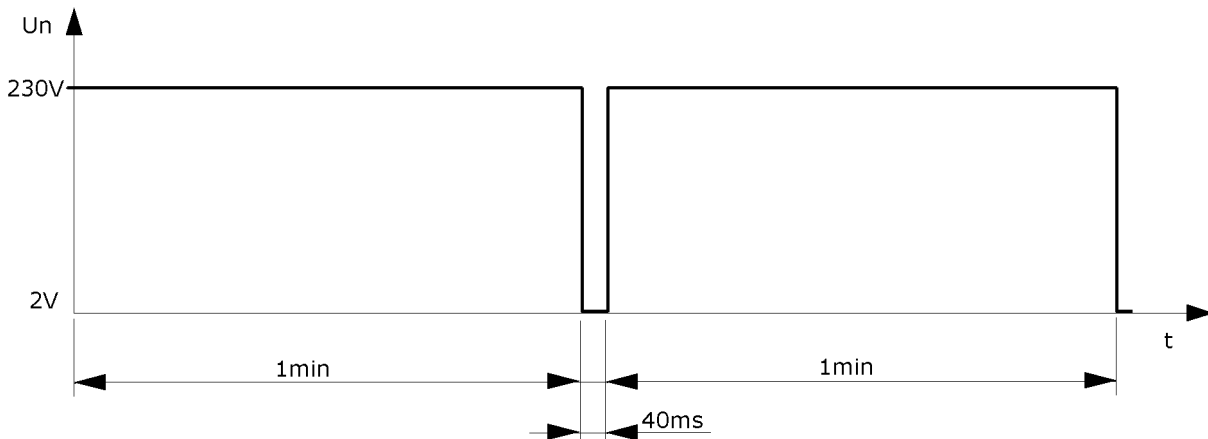

Fig.2.2. *Voltage interruptions of  $\Delta U = 100\%$ , two cycles at rated frequency*
Configuration of the procedure for a *voltage interruptions of  $\Delta U = 100\%$ , two cycles at rated frequency* test is presented in Fig.2.2. This procedure contains from 3 points:
- set the *Change setting's Duration* time (pos.4) to 60 s (seconds),
- add configured point to the procedure (pos.5),
- repeat points from b) to d) to add rest of test points (according to Fig.2.2) – change will be required only in:
- save the procedure file (pos.6).